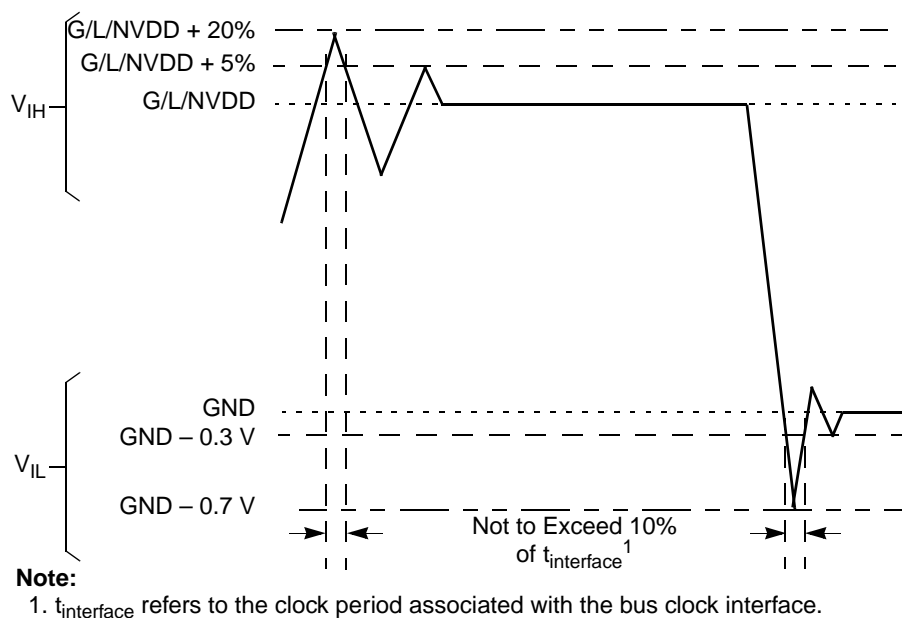

Figure 2. Overshoot/Undershoot Voltage for GVDD/NVDD/LVDD
- (M,N,L)V_{IN} and MVREF may overshoot/undershoot to a voltage and for a maximum duration as shown in Figure 2.
- NV_{IN} on the PCI interface may overshoot/undershoot according to the PCI Electrical Specification for 3.3-V operation, as shown in Figure 2.